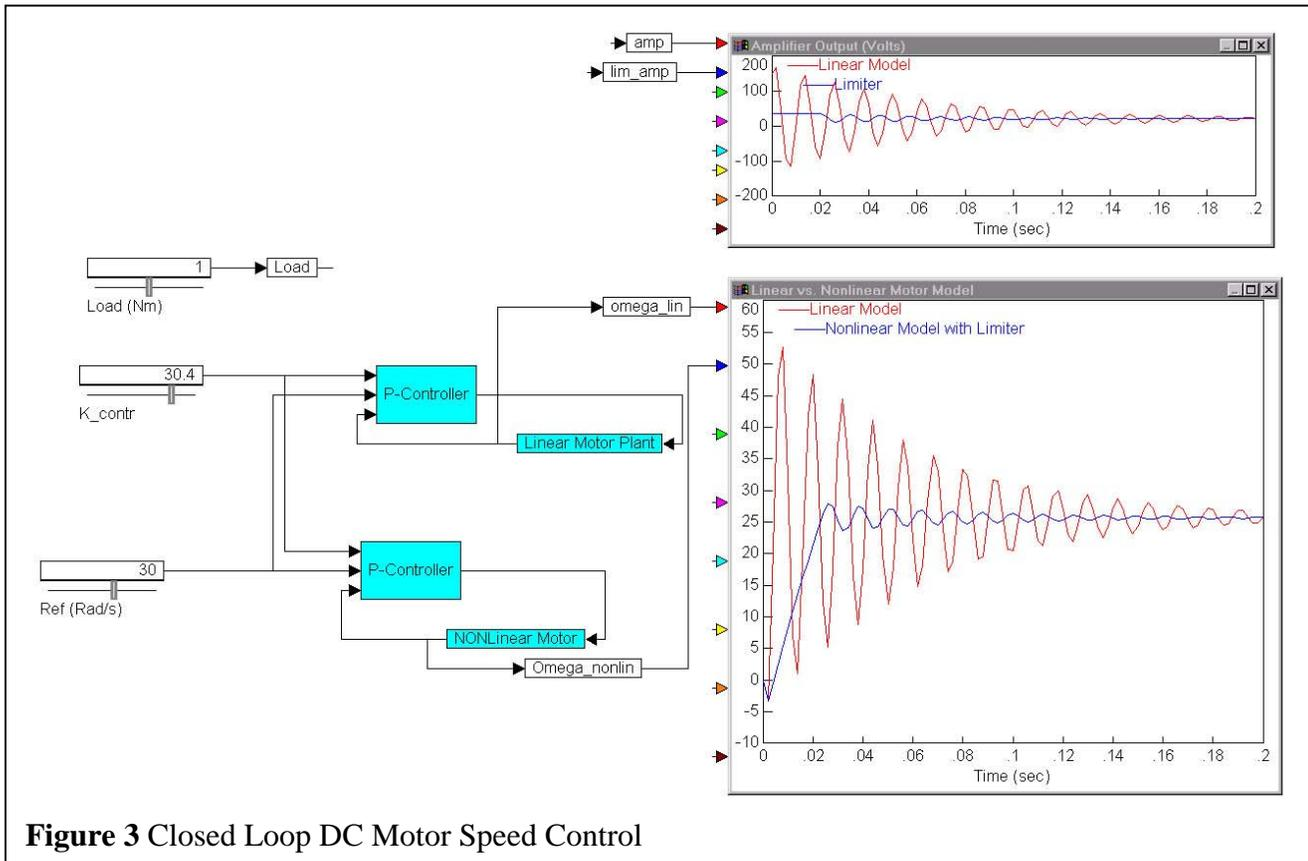

Figure 3 Closed Loop DC Motor Speed Control
- Design a controller (namely an amplifier with gain K_{contr}) to regulate the shaft angular velocity. A tachometer (actually a small DC generator) is attached to the motor. The motor data sheet informs us that the tachometer output is 5V/1000 RPM. Convert to Volts per Rad/s, which is our speed signal. Create sliders for the reference (motor speed in rad/s), controller gain and the load torque. Fig. 3 shows the VisSim diagram. Clearly label each slider so that you remember its function. The motor is fast, so in 'Simulation properties, set the end time at 0.1 or 0.2 s, and Frequency to 500. Feel free to alter these parameters as you wish.